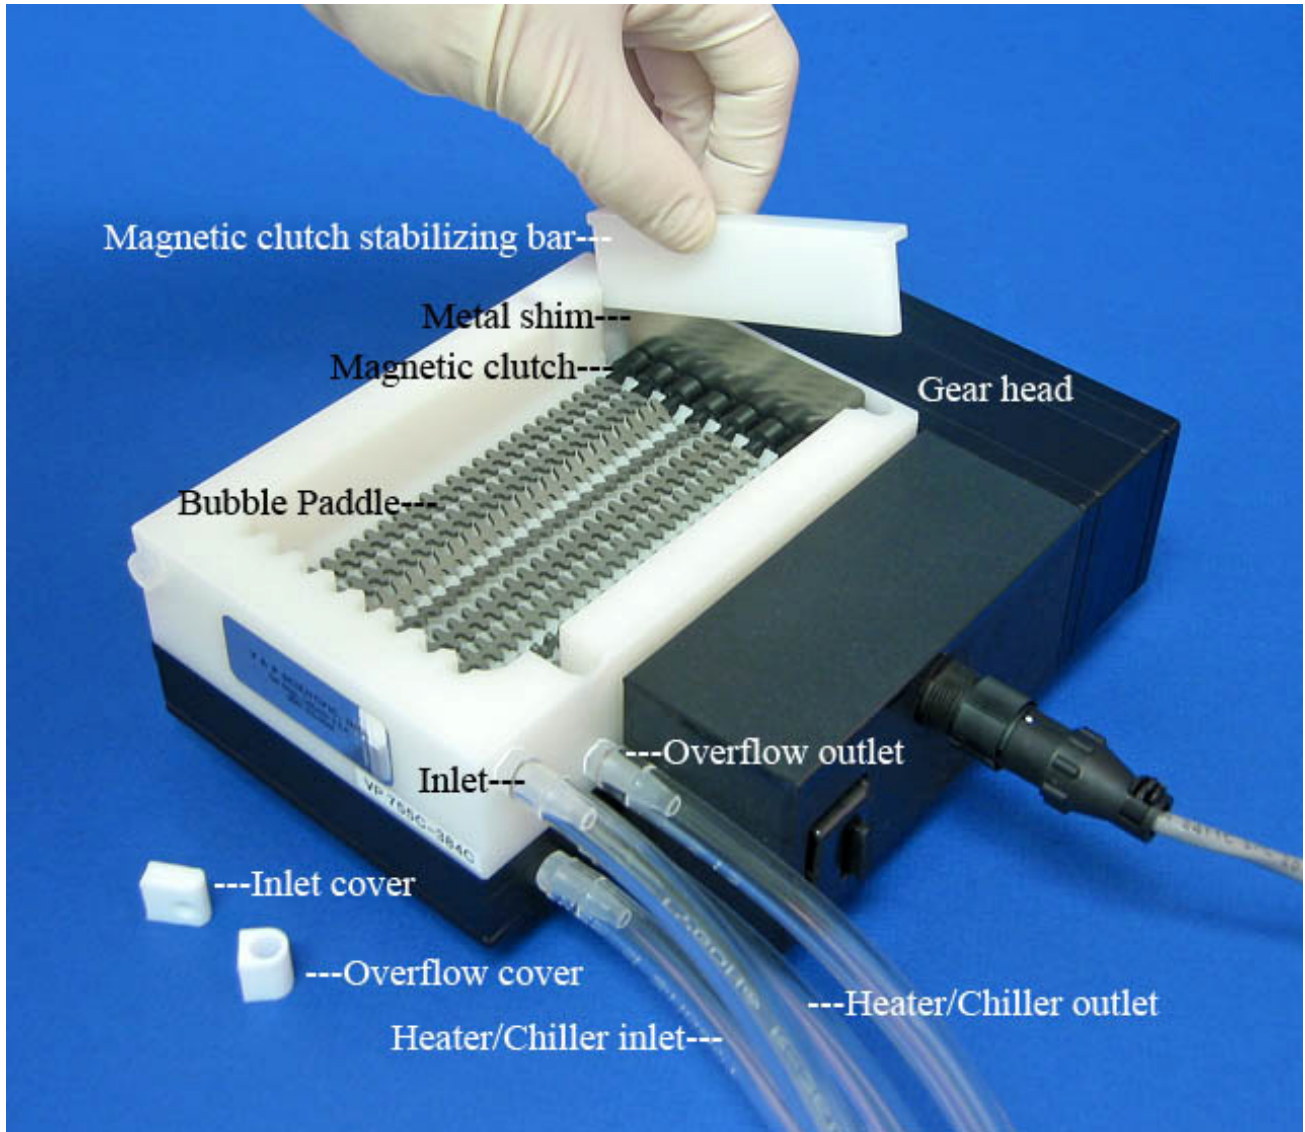
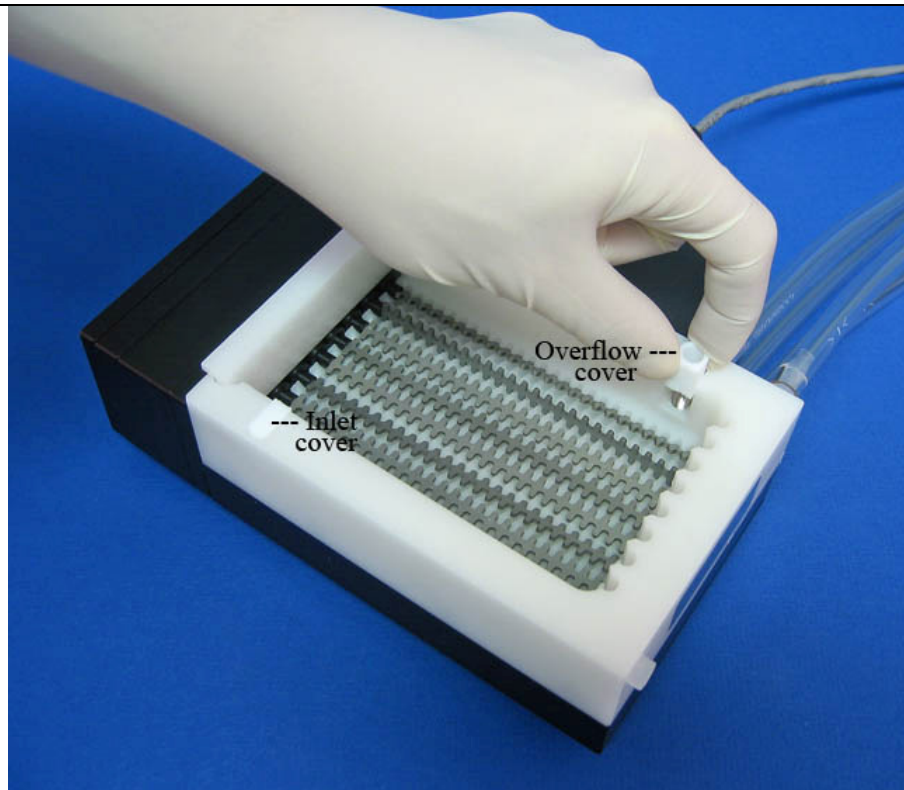

Figure 3. Illustrates the placement of the overflow weir cover on the weir in static operational conditions.
Figure 4. Illustrates how to adjust fluid level by screwing the hollow Overflow Weir up or down.
4. Connect the inlet and outlet tubing to the reservoir nipples and adjust the reservoir liquid level by turning the hollow overflow weir screw up or down with the provided Allen wrench, see Figure 4. If you are not going to be continuously adding solution, adjust the overflow weir to the highest level and place the overflow cover to prevent particulates from collecting in this area as shown in Figure 3.